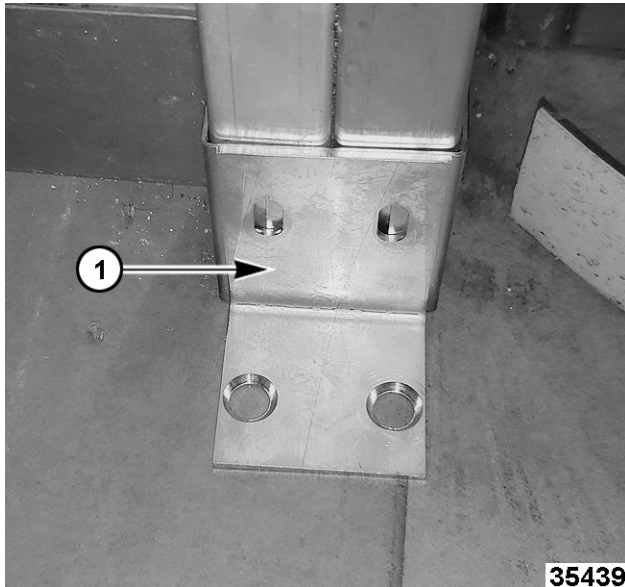

Fig. 34
1. Place one door jamb retainer (1, Fig. 34) against the jamb trim in the center of the jamb.